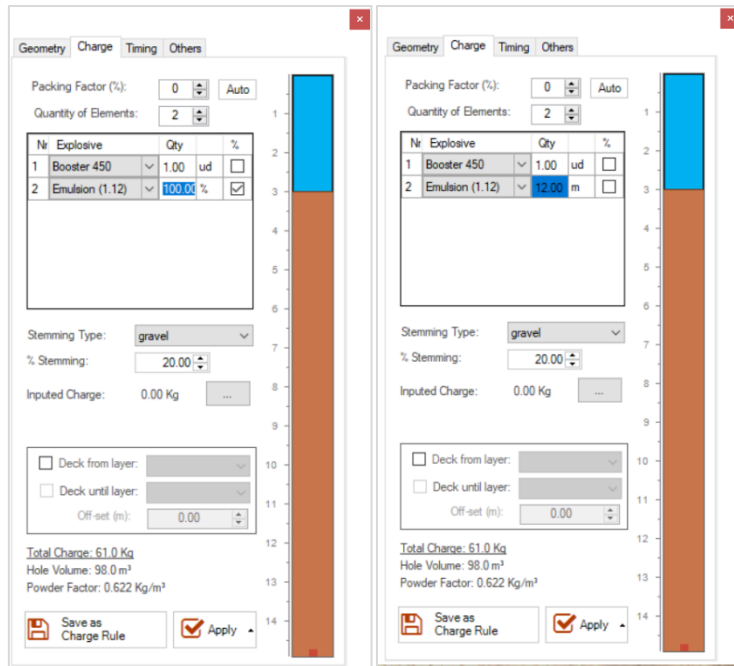

Fig. 261 - Left (A): Adding column charge by percentage; Right(B): Adding column charge by meters
- by percentage: the user selects the hole percentage to be filled by the product (Fig. 261 A)
- by meters: the user selects the meters to be completed by using the product (Fig. 261 B)